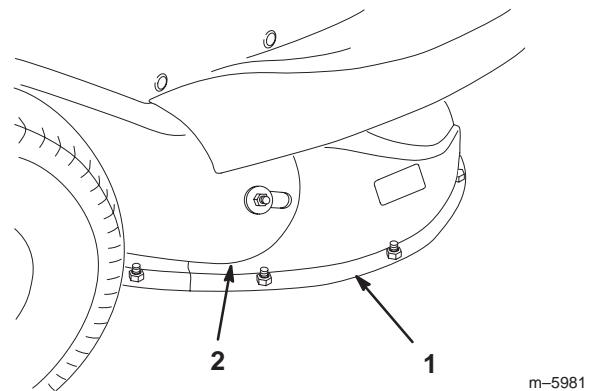

Figure 13
3. Move the height of cut lever into the B or C position. Remove the 3 screws, washers, and nuts attaching the discharge chute to the mower (Fig. 13).
4. Remove the bolt, washer, and nut attaching the discharge chute to the discharge tube (Fig. 13).